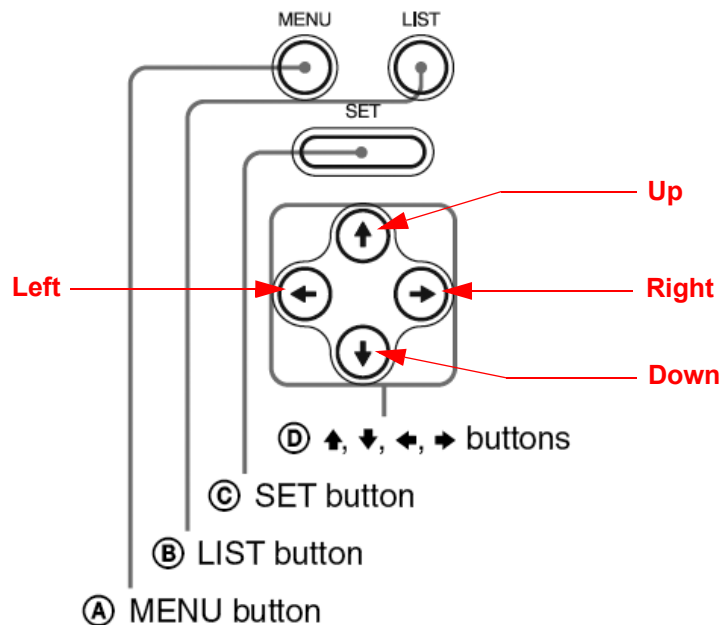

Figure 3-14 Keys on the front of the recorder
- 3.) Press the **MENU** button **(A)** located on the front of the DVD recorder see Figure 3-14 below.
- 2.) Press the **MENU** button (**A**) located on the front of the DVR, see: Figure 3-14 on page 3-16.